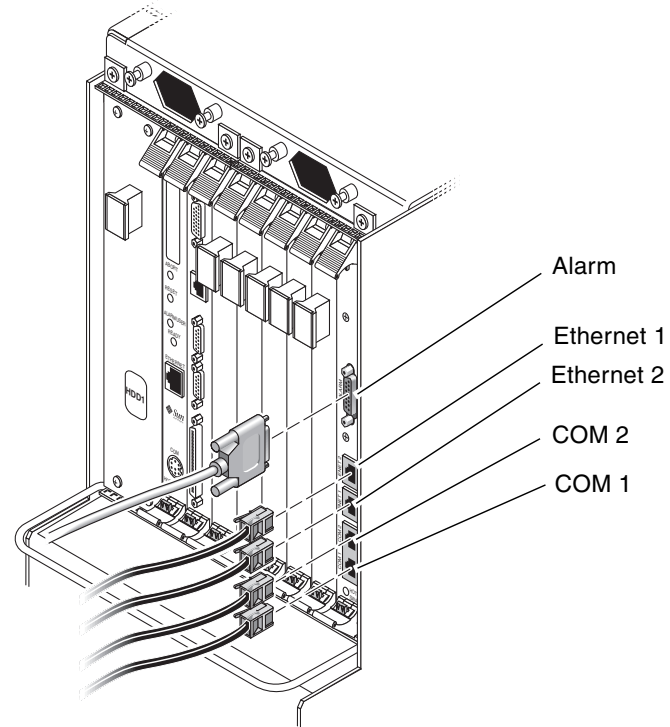

FIGURE 6-10 Connectors for the Single-Wide 6U Alarm Card
- Single-wide 6U alarm card¹—FIGURE 6-10
1. FIGURE 6-10 shows the connectors for a single-wide 6U alarm card installed in a Netra CT 810 server. The location of a single-wide 6U alarm card installed in a diskless Netra CT 410 server is different, but the connectors are the same.